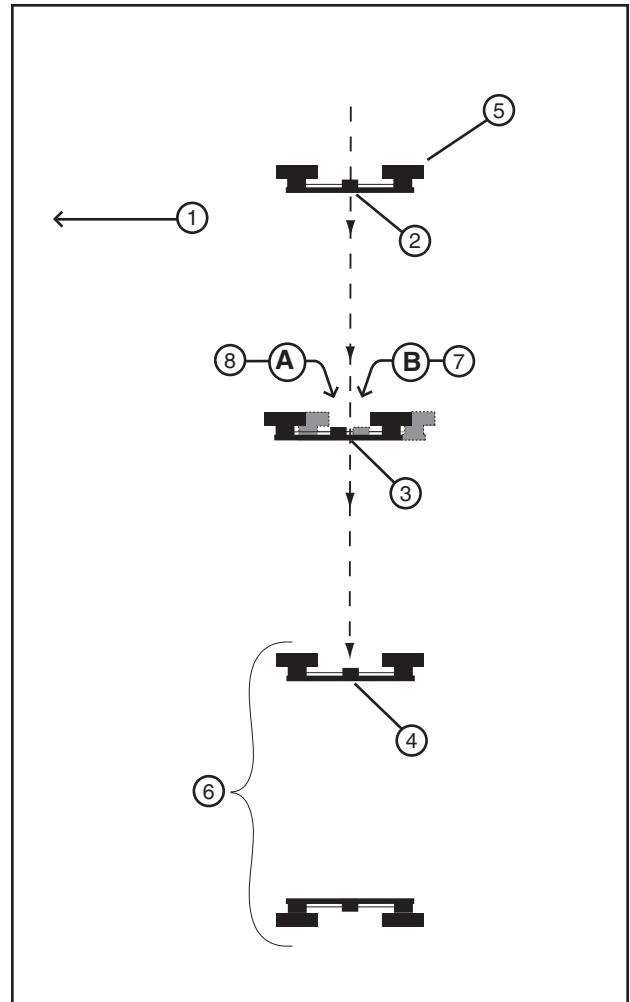

Figure 103-1 1. Direction of Travel 5. End Tower
2. Begin the alignment procedure from an end tower. Identify the first three towers as 1, 2, and 3. Use towers 1 and 3 to align tower 2. See figure 103-1.
3. Sight an imaginary center line between the center of the tower drive motor 1 to the center of the tower drive motor 3. See figure 103-1.
4. Observe the movement of the tower drive motor 2. It should start and stop equal distances from the imaginary center line. See figure 103-1.